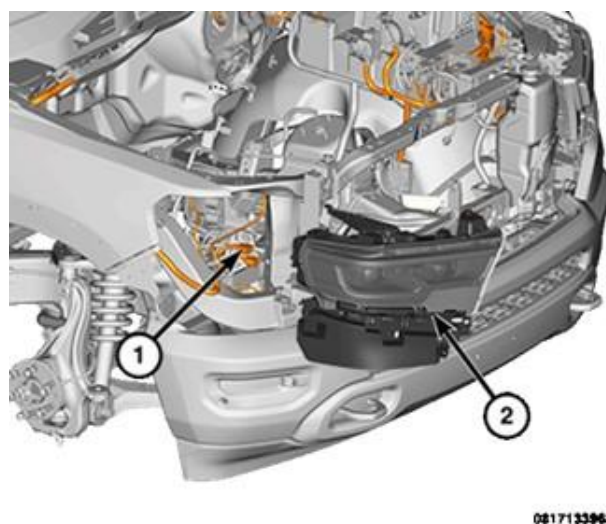

Figure B18 – Headlamp Assembly
30. Remove the headlamp unit and disconnect the wire harness connectors (Figure B18).
33. Connect the wire harness connectors to the **NEW** headlamp (Figure B18).